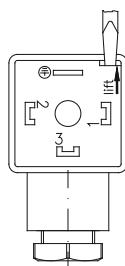

Fig. 6
- ☞ Open the core ⑧ of the cable socket ② with a screwdriver or similar tool (→ Fig. 6).